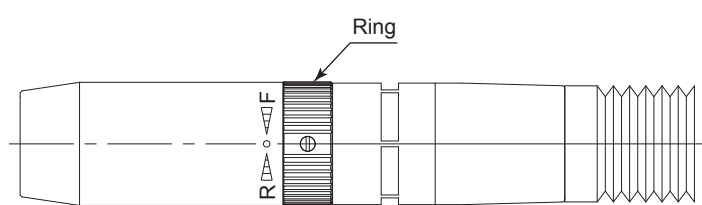

Fig. 5
- (1) Supply air pressure to the Air Line Kit.
- (2) Supply air from the air compressor and turn the Regulator Knob to set air pressure between 0.3 - 0.45 MPa (43.5 - 65.3psi).
- (3) Motor will be rotated by turning the Ring Switch of Air Motor toward ( " F : FWD." or " R : REV." ) in Fig.5 and stepping on Foot Control.